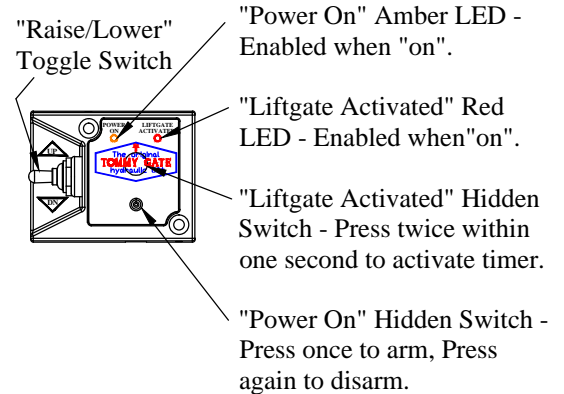

Figure 33: Control Terms.
4. To turn the control power on, press the "POWER ON" hidden switch once, marked with white rings or circles (located below the Tommy Gate logo). You should see the amber LED "POWER ON" light when the control is armed. To disarm the control press the "POWER ON" hidden switch again. Terms used for the control are shown in (Figure 33).